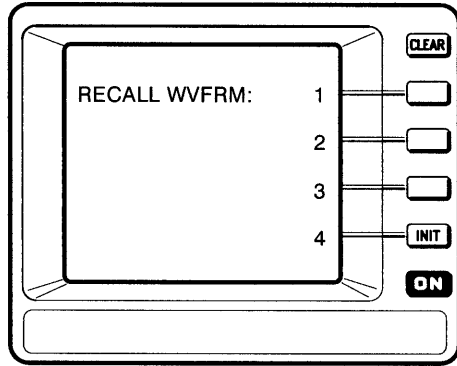

Figure 3-27: The Recall Waveforms Menu
- Step 1:** Press the **RCL** button on the top panel. A menu appears as shown in Figure 3-27.